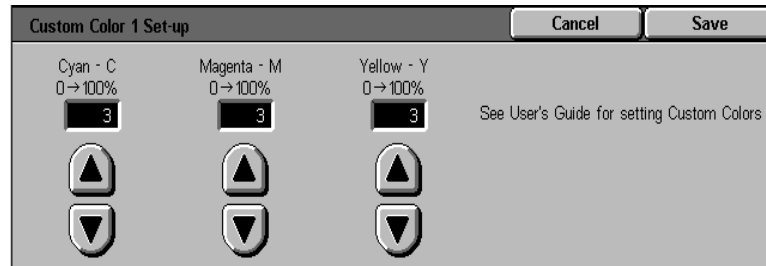

Figure 9: Custom Color Set-up screen
- 4 Touch the **Change Settings** button to edit the settings for the selected **Custom Palette Number**. The **Custom Color Setup** screen for that color is shown.(Figure 9) The Title bar lists the Custom Color Set-up number that you are changing.